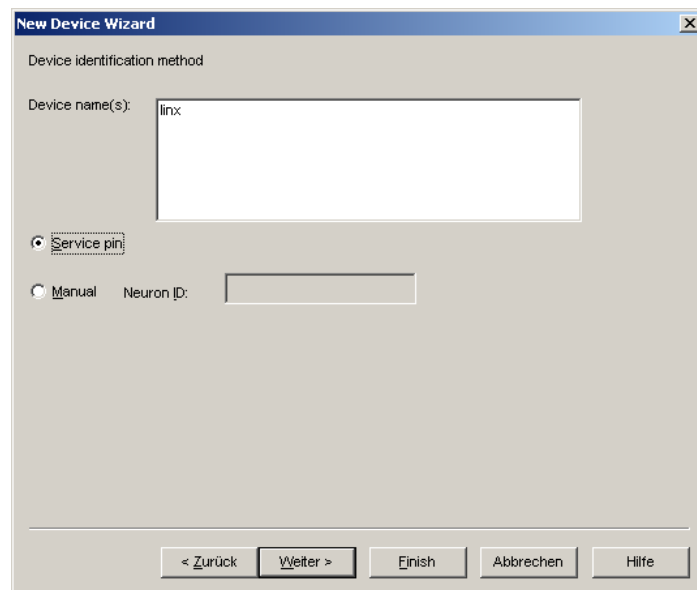

Figure 75: Use Service Pin.
6. Check Service Pin as the device identification method as shown in Figure 75 and click **Next**.